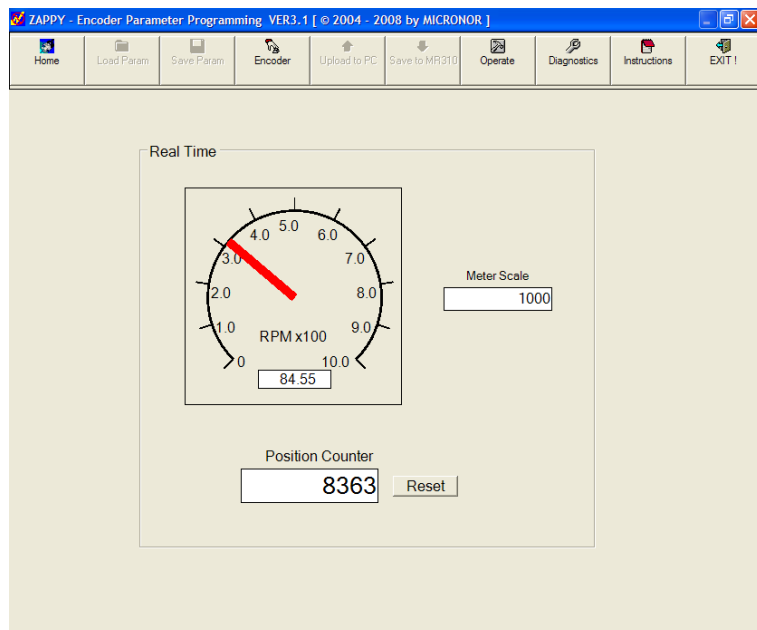

Figure 17. Real-time Encoder Operation viewed via OPERATE Screen.
- **STEP 2:** An initial check would be to deliberately and semi-precisely turn the encoder shaft for one revolution and note if the correct number of counts is displayed. (HINT: A little adhesive tape flag formed around the encoder shaft would provide some degree of finger control.). An active [OPERATE] screen is also shown in Figure 17.